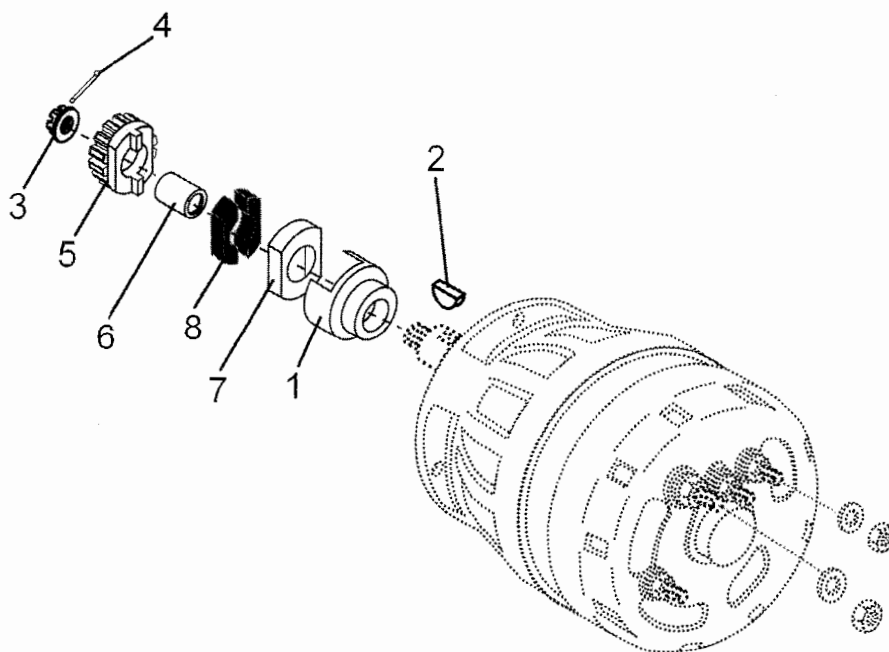

Figure 6-99. Alternator and Coupling Assembly
- 1) Secure the alternator coupling gear (Figure 6-99) (5) in the jaws of a padded vice, leaving the gear section free.